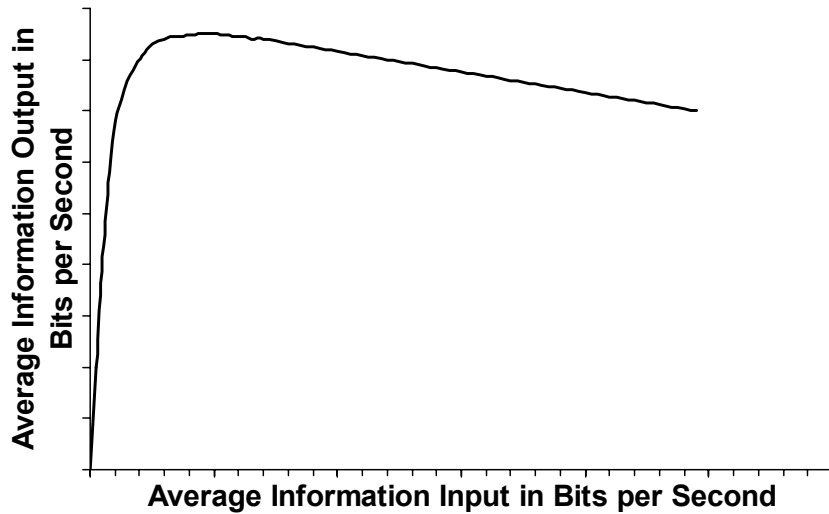

Figure 29. A Schematic Relationship of Input and Output Information Transmission Rates for Living Systems
- The above hypothesis was used to construct families of curves to represent the effects of information input overload as shown schematically in Figure 29.